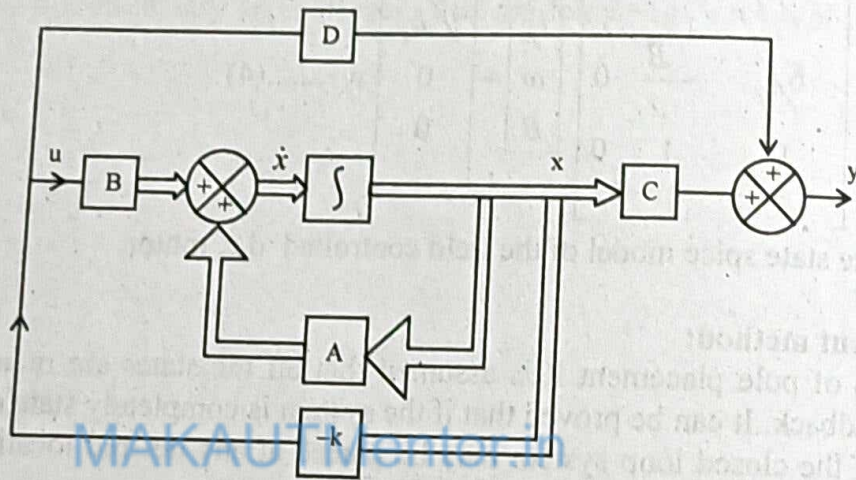

Fig: 1 State feedback system
$x(0)$ being the initial state caused by an external disturbance. The system represented by Eqn. (4) is shown in Fig. 1.